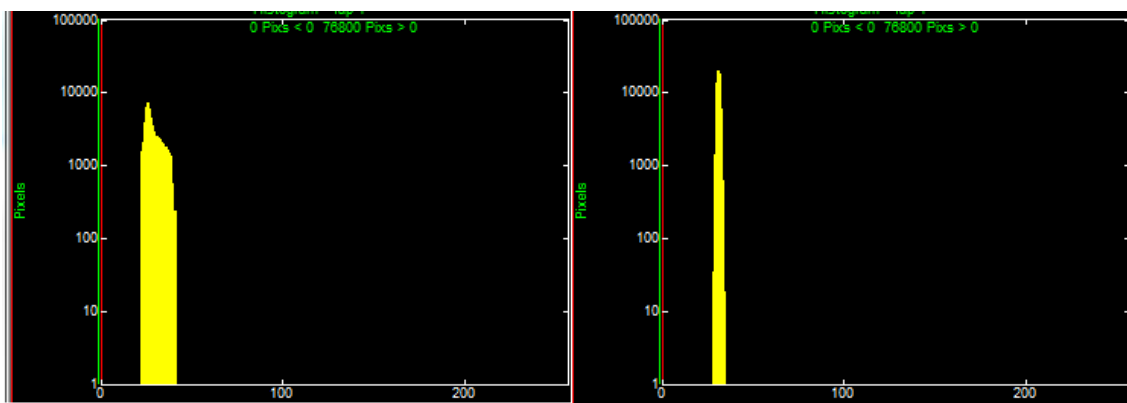

Figure 62: Pre AGC Camera Link Output
- ☐ Do not rely on the analog video output to determine the video quality. If the image is extremely uniform the AGC will cause the image to look like it has more noise. To properly evaluate the image quality, the user should look at the pre AGC, Camera Link video data. The user should plot the histogram of the output image while looking at a uniform black body. Figure 62 shows the same camera (with a custom lens) while looking at the same black body. The histogram on the left is with the custom lens calibration disabled. The histogram on the right is with the custom lens calibration enabled. Notice that the pixel distribution on the right is much tighter (which is expected and desired). But while looking at the analog output image (while looking at the same black body), the image with the custom lens calibration looks worse; this is because the AGC is trying to apply gain correction over a narrow (uniform) scene.